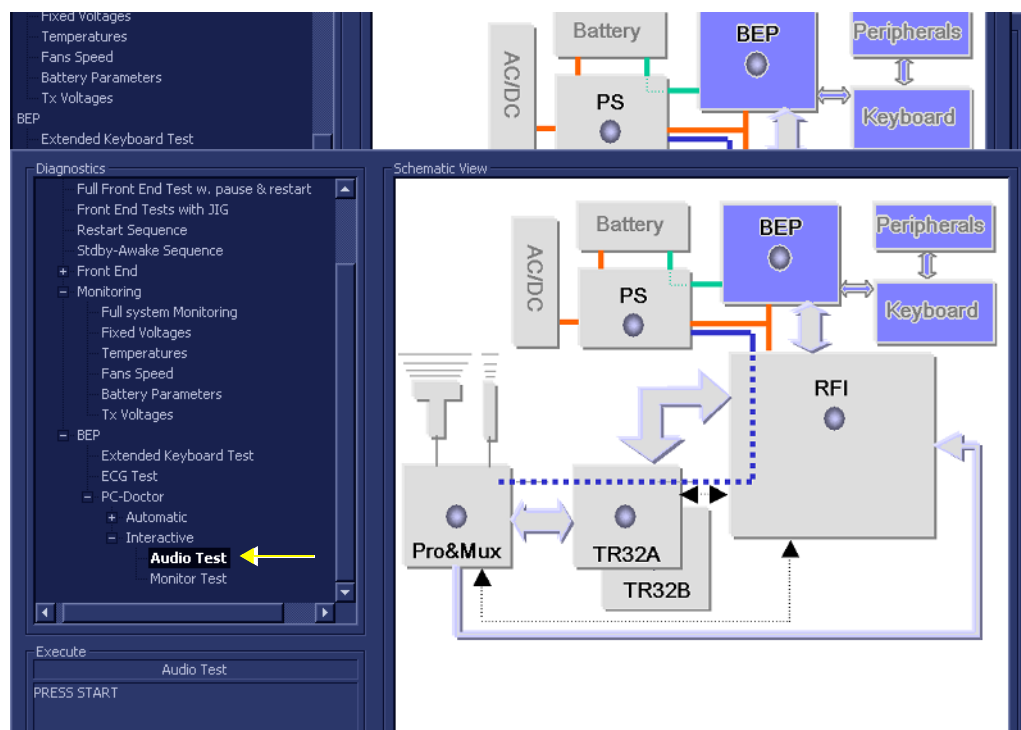

Figure 7-96 Audio Test
- 1.) In the *Diagnostic Test* window, trackball to **Audio Test** in the list of *Interactive PC Doctor* tests available for selection from the Diagnostic Test Tree (see Figure 7-96 below) and press **Set**. The Test name is displayed under *Execute*; the relevant system components to be tested are highlighted light blue in the Schematic View (BEP, Peripherals, Keyboard), as shown below: